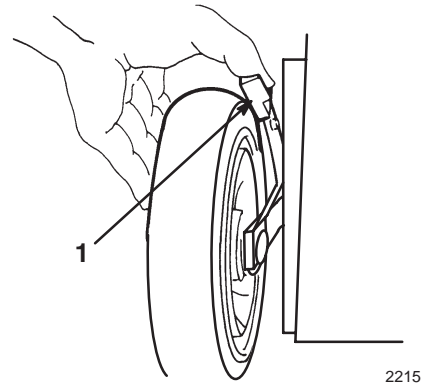

Figure 17
2. For easier adjustment, lift housing up so wheels are off ground. **Do not place hands under deck to lift housing.** Squeeze adjustment lever toward wheel and move lever to desired setting (Fig. 17). Ensure pin on adjustment lever engages notch in mower housing. Adjust all wheels to the same setting.